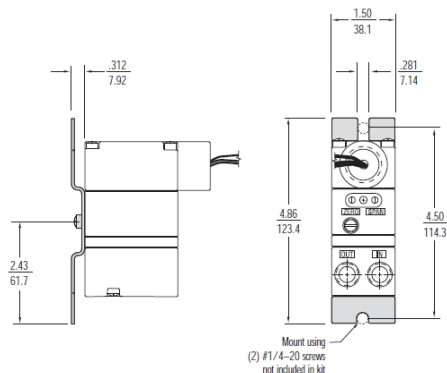

Figure 1 – Standard Panel Mount
- 2.3.2 Panel: With access to rear of panel, attach transducer to panel using two 10-32 screws and the two threaded mounting holes on the back of the unit. With no access to the rear of a panel, attach bracket to transducer using two 10-32 holes on the back of the unit and mount bracket to panel using four 10-32 screws (see figure 1).